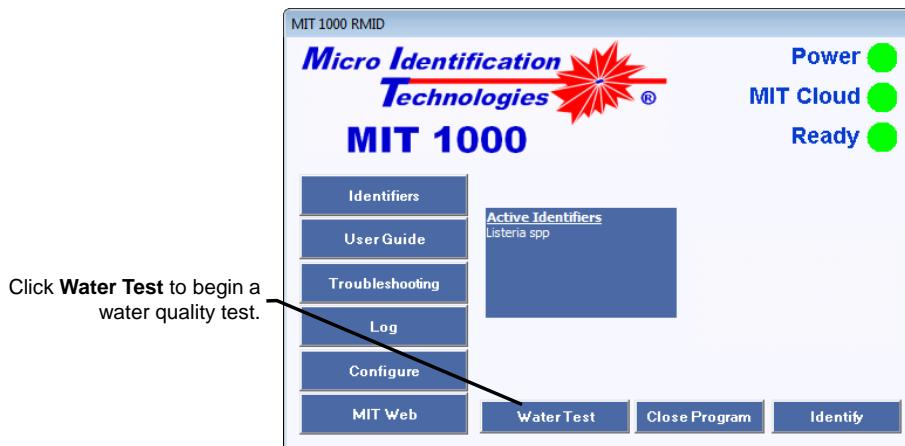

Figure 16 – Water Test
2. Place the MIT Vial in the MIT 1000 System as described in Step 9 in Chapter 7 on page 34 and click **Water Test** as shown in Figure 16.